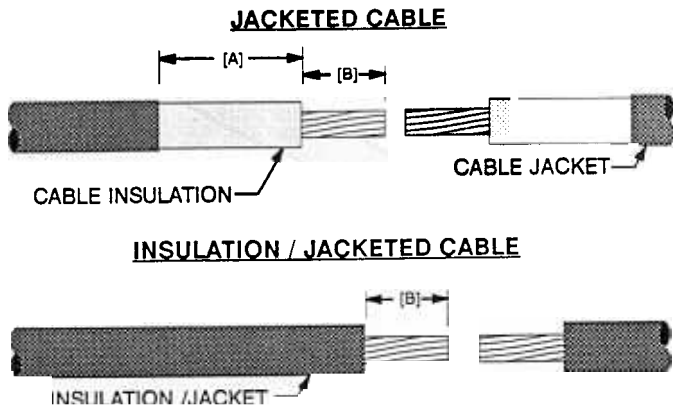

FIGURE 1
2. Remove insulation / jacket as shown in *FIGURE 1* and *TABLE 2*.